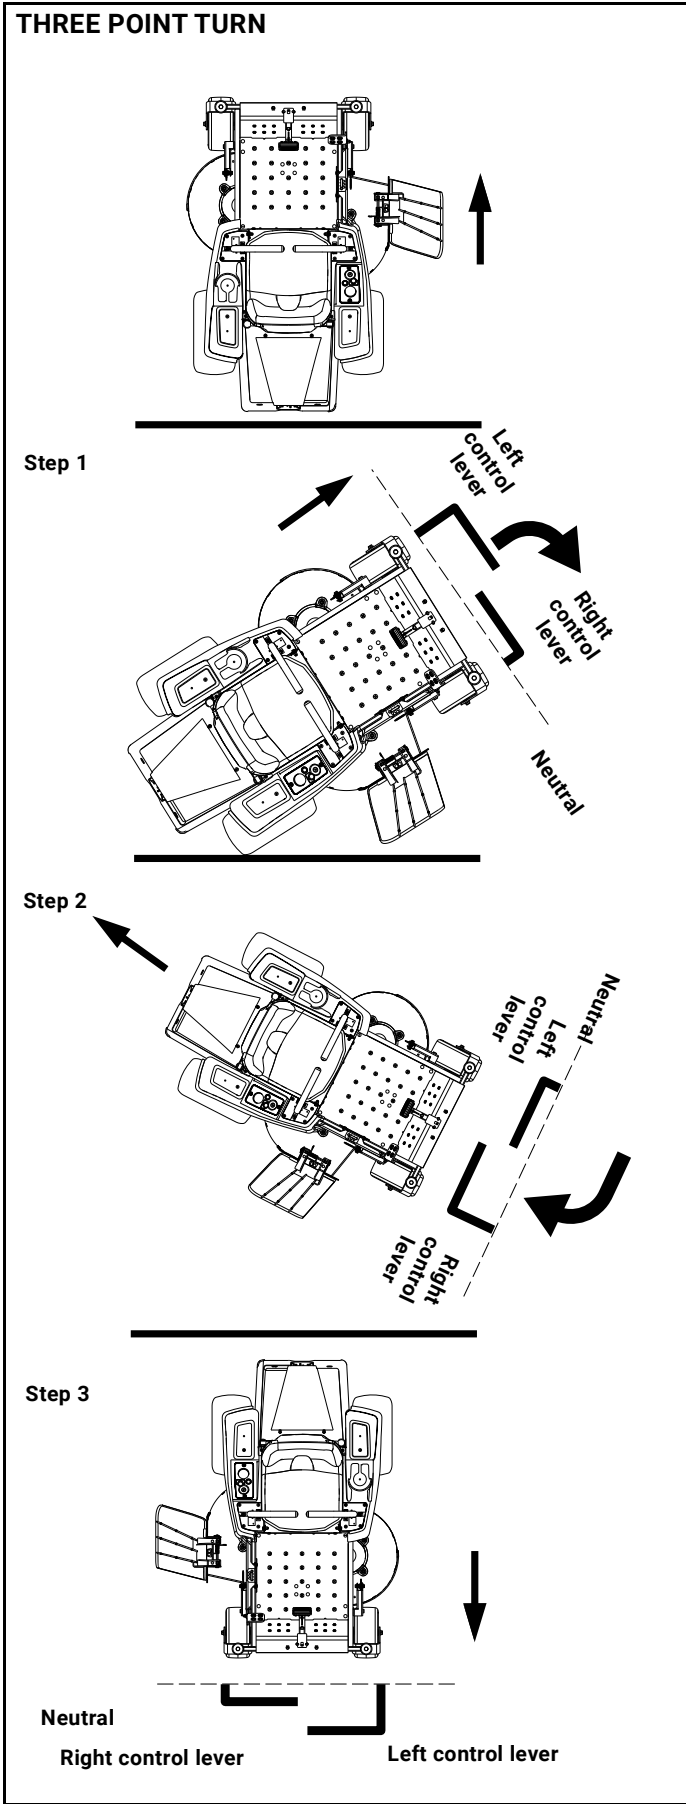

Figure 3-7
1. Move the left steering control lever farther forward from neutral than the right steering control lever and start the turn. Figure 3-7
2. Next, pull back on the steering control levers until they pass neutral and the machine starts to go rearward. Figure 3-7
3. Pull the right steering control lever farther rearward from neutral than the left steering control lever until the rear of the machine pivots around. Figure 3-7
4. Then, push the steering control levers forward until they both pass neutral and the machine starts to go forward. Figure 3-7
5. Push the left steering control lever farther forward from neutral than the right steering control lever and finish the turn. Figure 3-7